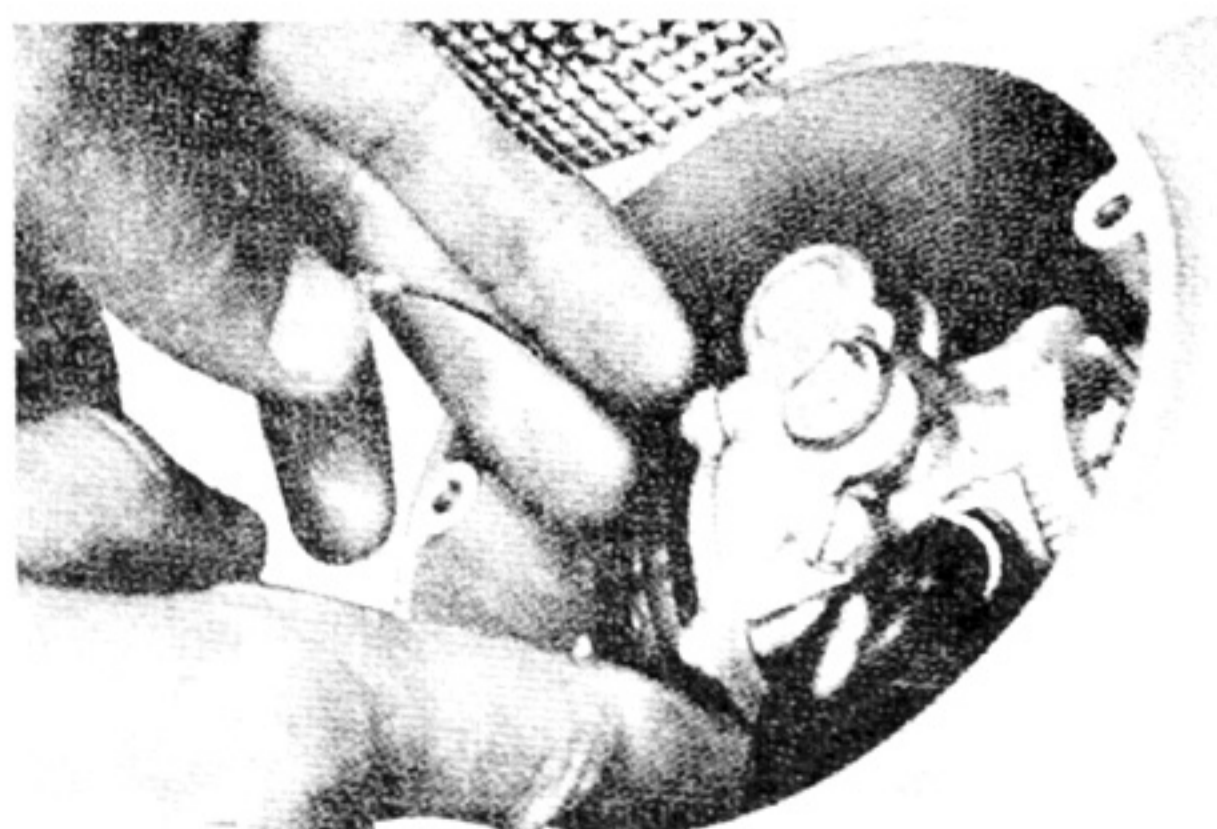

Fig. 3-1-11
11. Remove the oil pump cable. (Fig. 3-1-11)